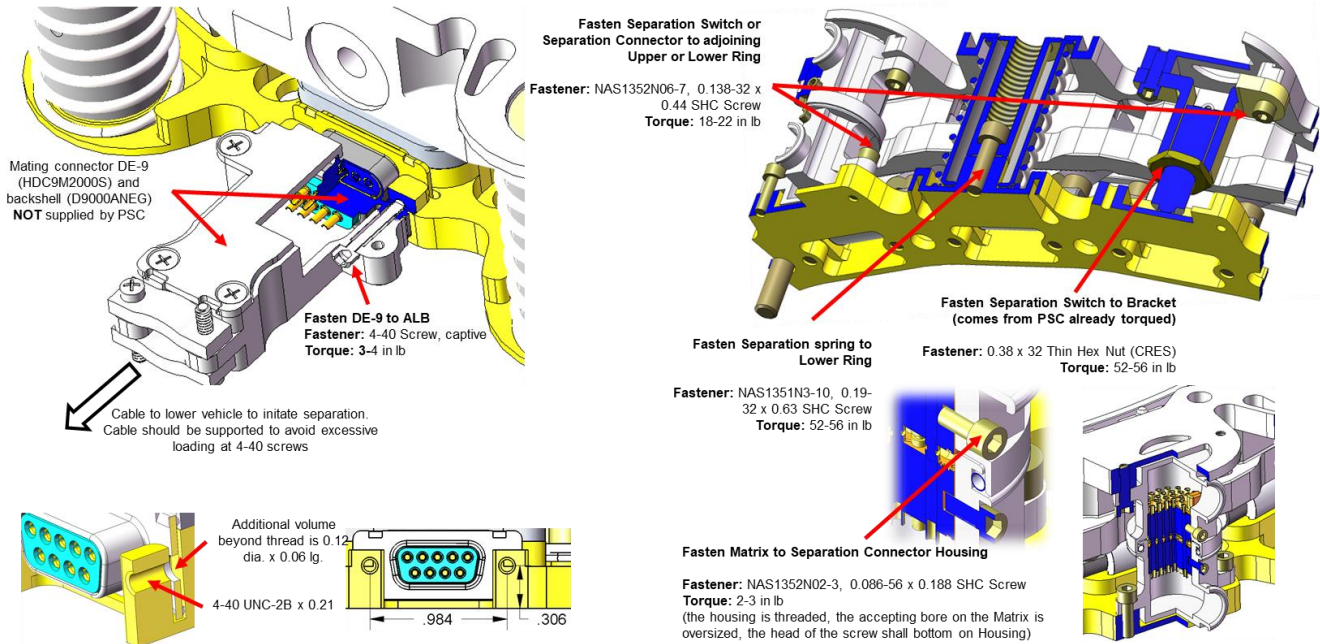

Figure 8-1: Fasteners and torque for accessories
8.1.5	Torque .190-32 x .63 SHC fastener 52-56 in·lb per Figure 8-1.
8.2.3	If needed, attach the Switch Bracket to the Separation Switch with the .38-32 thin nut provided with the Separation Switch. Torque 52-56 in·lb per Figure 8-1.
8.2.5	Install Switch onto Upper or Lower Ring. Turn screws until Switch Bracket mates to Ring. Torque .138-32 x .44 SHC fasteners 18-22 in·lb per Figure 8-1.